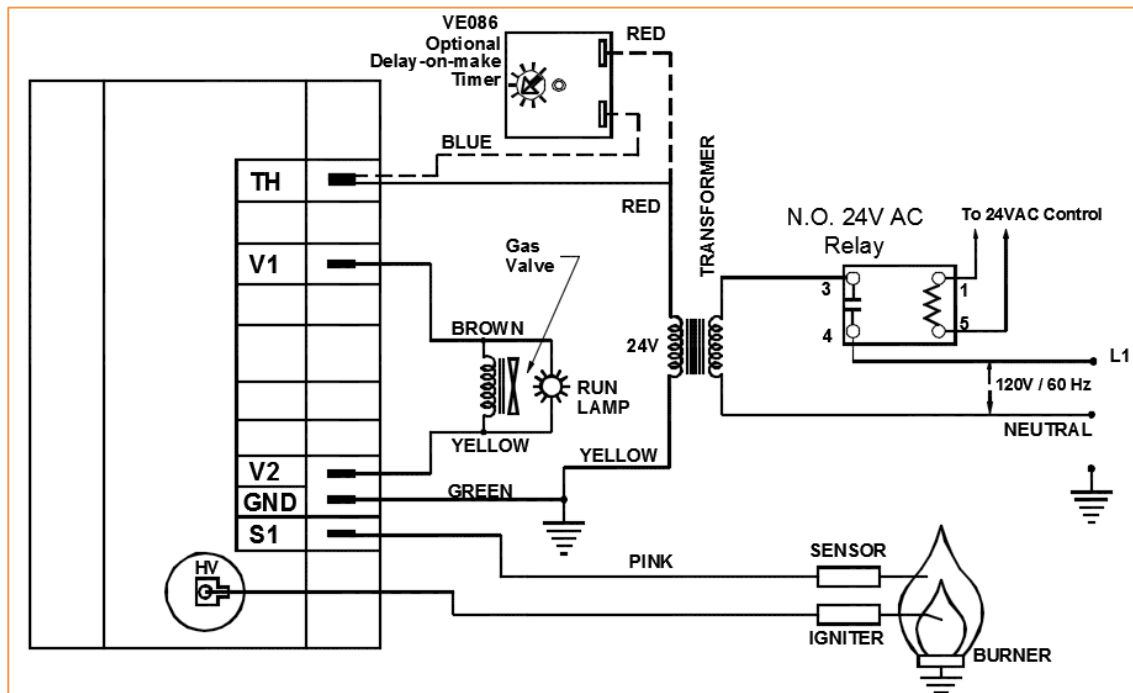

Figure 41. Burner Wiring Diagram
1. Single Thermostat: Entire system operates as one Heating Zone, ON or OFF using one Relay to control the Vacuum Pump, Vacuum Switch and Burner Power (Figure 41).
Maximum current draw is 0.2 A per burner. Burners internally operate on 24 VAC with a 120 VAC 60 Hz Power Cord and transformer provided. The Power Cord uses a standard single phase North American three-pronged plug (grounded) that is 3 ft. (90 cm) long and extends from the back of the Burner. Burner wiring between the transformer, gas valve, transformer etc. has been completed by the manufacturer as shown in the Figure 41. Wiring label is located on the burner service door.